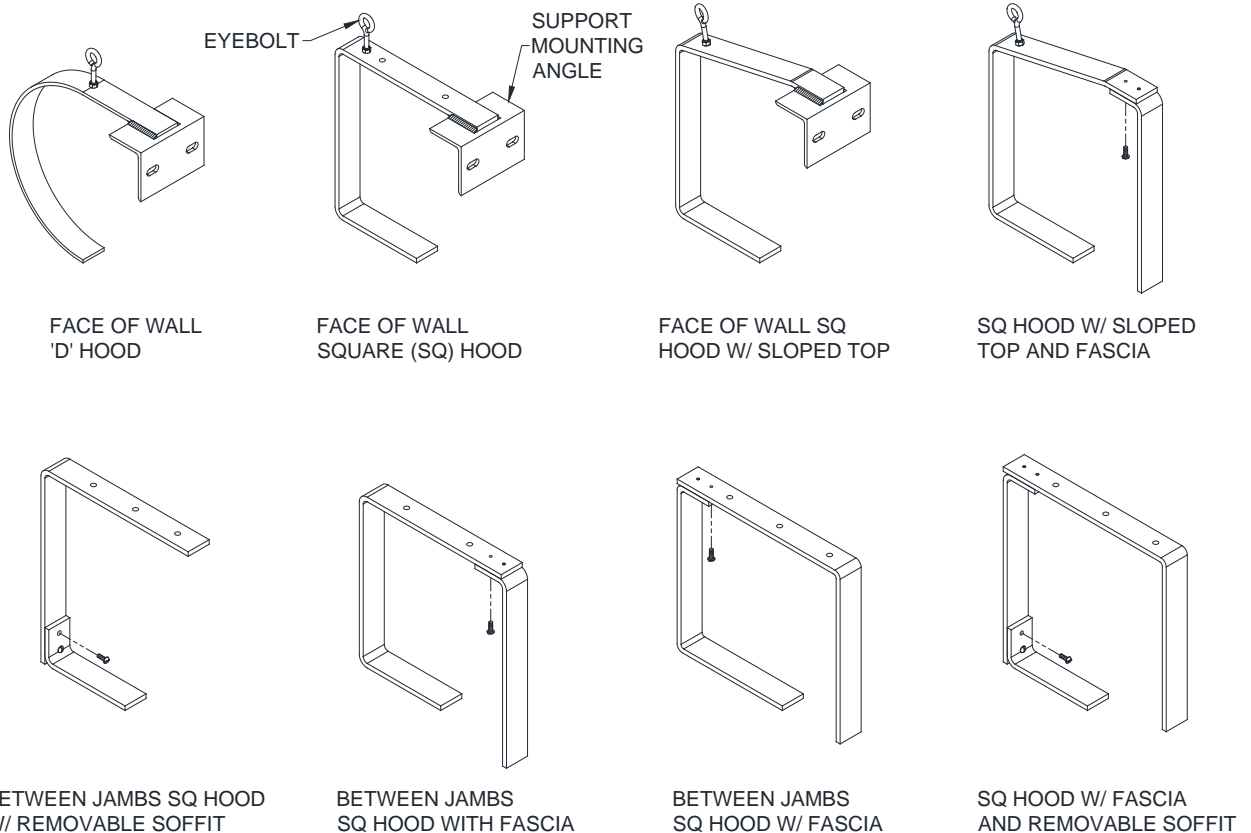

Figure 10.1 - Hood Supports
1. Refer to the job information to determine the type and quantity of hood supports required for your door. Hood supports will be noted on the elevation view of the job construction drawings. See **Figure 10.1** for hood support types.